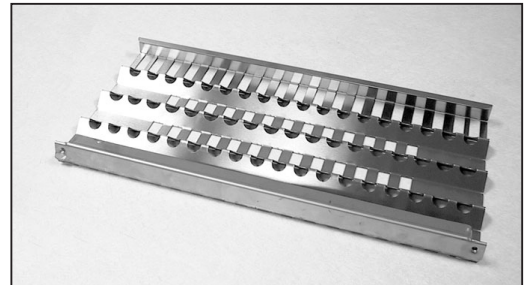

FIG. 11
1. Unpack ceramic rods and remove radiant (Fig. 11) from the unit.